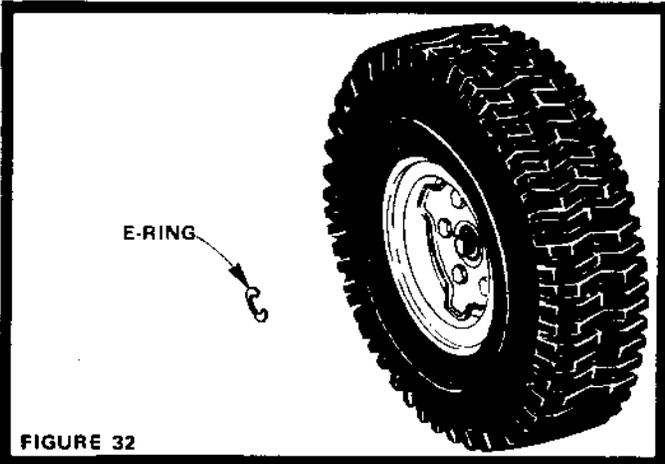

FIGURE 32
- e. Removing rear wheel for tire repair (Fig. 32):